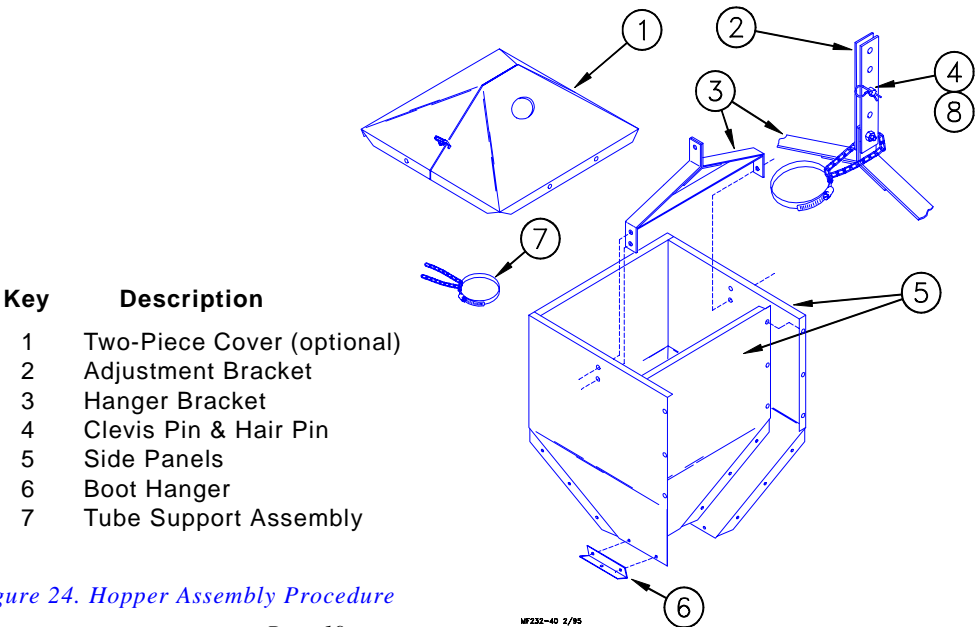

Figure 24. Hopper Assembly Procedure
1. Loosely, assemble the 200# Hopper Side Panels, as shown in Figure 24, using 1/4-20 bolts and 1/4-20 hex nuts (supplied in Hardware Package). The Hopper should be assembled so that the "CHORE-TIME" decals are on opposite sides of the hopper.
2. Secure the Boot Hangers to the bottom of the hopper, using 1/4-20 hardware. See Figure 24.